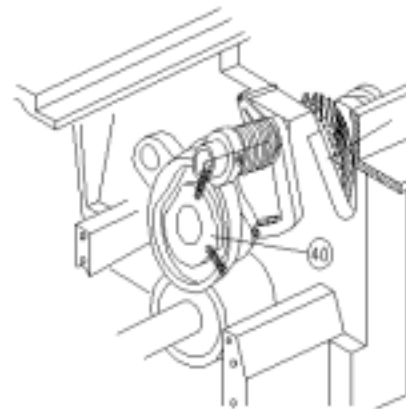

FIG.19
Turn the hand-wheel so that it moves the second dowel pin of the tension cam (40, FIG. 19), in the direction of rotation, after previously fixing the cam in a vertical position with respect to the plane of the machine. With the cam (40) in this position bring the second dowel pin, in the direction of rotation, of the arm. Temporarily block the dowel pin in this position as this adjustment serves as preparation for synchronizing. Mount the upper hook (46), positioning its tip about 16.3mm from the level of the throat